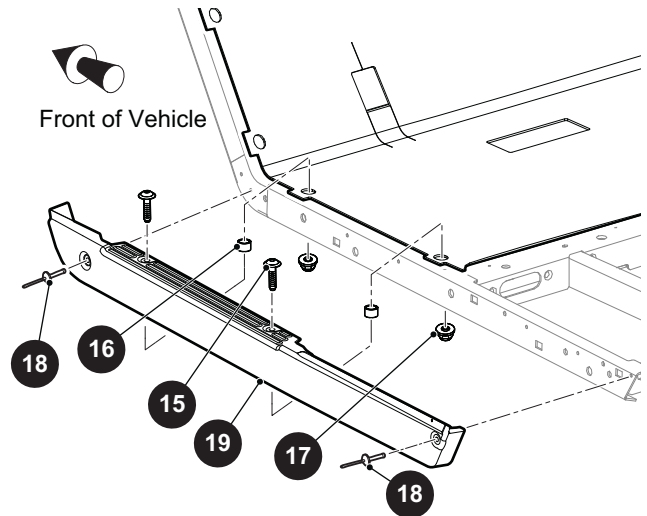

Figure 8 Rocker Panel
Remove two screws (15), spacers (16) and nuts (17) from top portion of rocker panel (19). Retain hardware for later installation (Figure 8).